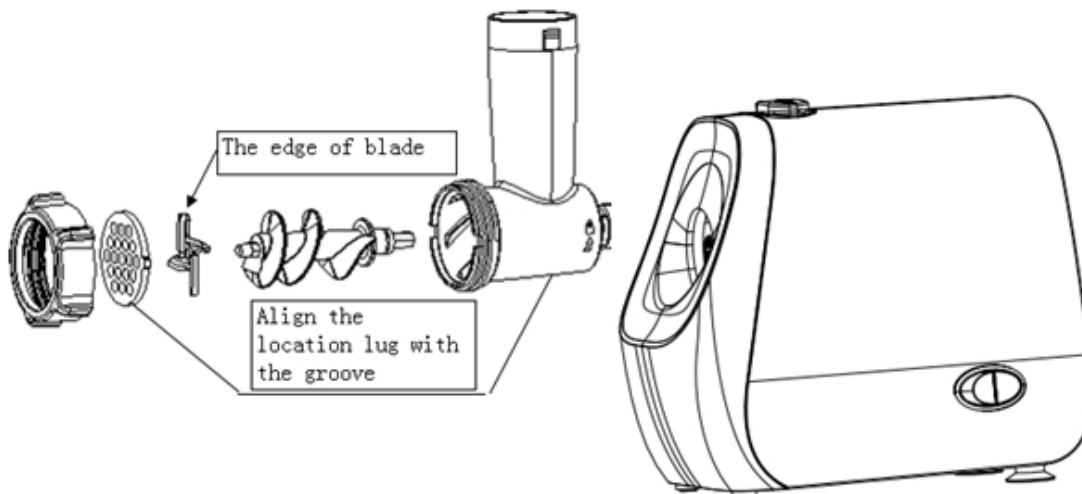

Fig. 2
2. Assemble the ream meat rod, blade, blade disk and lock nut as illustrated as figure (see fig.2) before ream meat tube and the appliance can be used now.